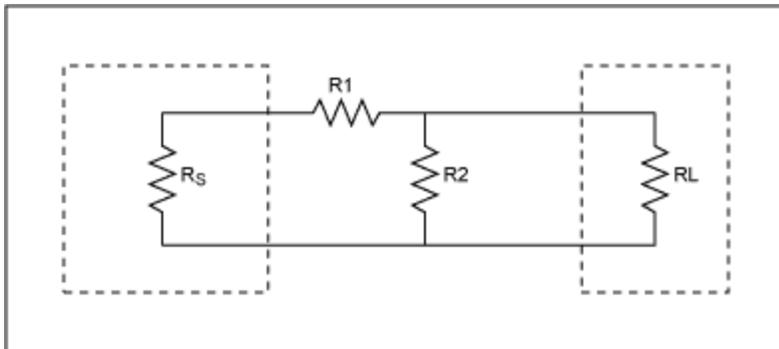

Figure 2. Minimum loss pad.
**Figure 2** shows a MLP with source and load impedances of  $R_S$  and  $R_L$ . An L-section pad is used to match the high impedance,  $R_S$ , to the low impedance,  $R_L$ . (Figure 2 assumes that  $R_S > R_L$ .) Resistor values for this MLP are determined by Equation 1 and Equation 2 [1].
To determine the resistor values for a 75Ω to 50Ω MLP, refer to the general MLP shown in Figure 2 above. Select  $R_S$  and  $R_L$  to be 75Ω and 50Ω, respectively. This satisfies the assumption that  $R_S > R_L$ . From Equation 2: